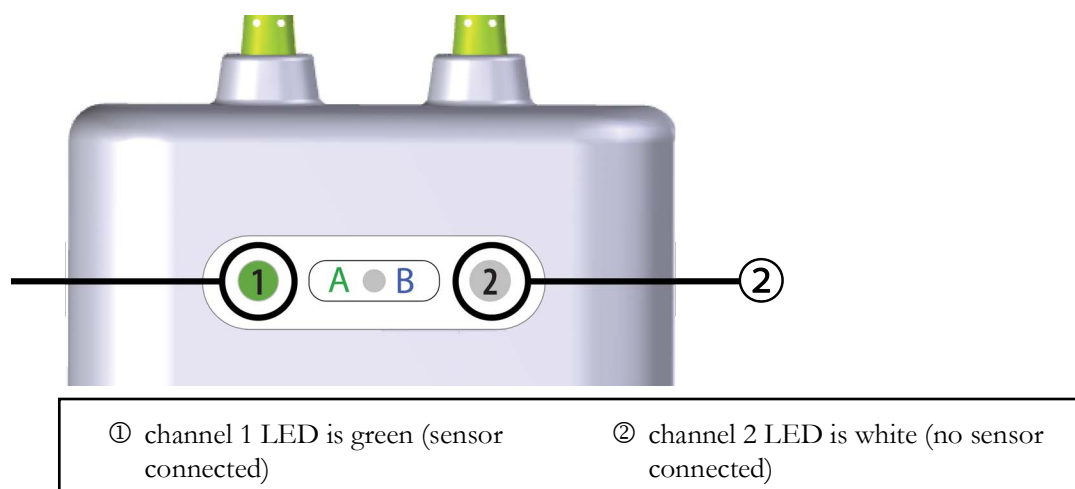

Figure 13-14 Connecting a sensor to the ForeSight oximeter cable – channel status LED
- 6 Verify that the channel status LED indicator on the ForeSight oximeter cable changes from white to green when the sensor is fully connected. See figure 13-14.